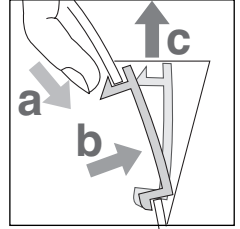
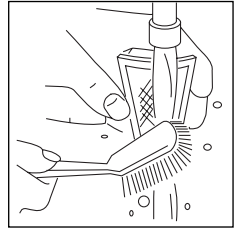

Fig.1
Fig.2
- Remove the filter (fig. 1) and wash with water (fig. 2). Refer to page 5. "Removing the scale filter"
- Empty the kettle and remove the filter as shown in figure 1.
- Rinse under a tap while brushing with a soft brush (fig. 2).